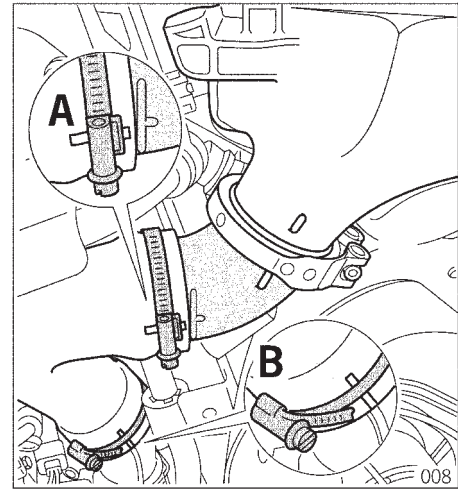

Figure 8
- 10.6.** Slide left pressure hose (955.110.837.00) onto left pressure pipe (955.110.368.00) and join hose clamp (N 024 505 6). Observe assembly position (Figure 8, inset A)!